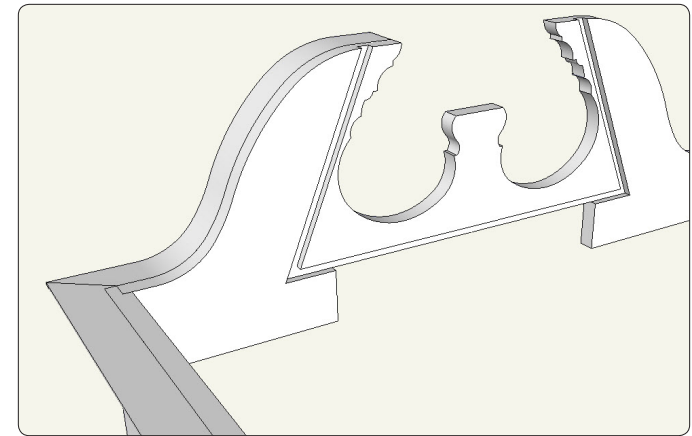

Figure 18. Create grooves on the rear face of the bonnet front to hold the pieces for the inner enclosure.
Step 5 Use the Orbit Tool to move around to the back side of the bonnet front. Place guide lines as needed and use the Line and Push/Pull Tools to create the grooves that hold the inner enclosure of the bonnet (Figure 18). If you're working from a detailed plan or drawing, follow it for the width, depth, and angle of the grooves.